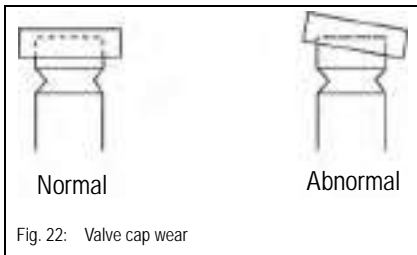

Fig. 22: Valve cap wear
- ☞ Check the valve cap for abnormal wear – see Fig. 22.
- ☞ Check the valve cap for abnormal wear – see Fig. 22